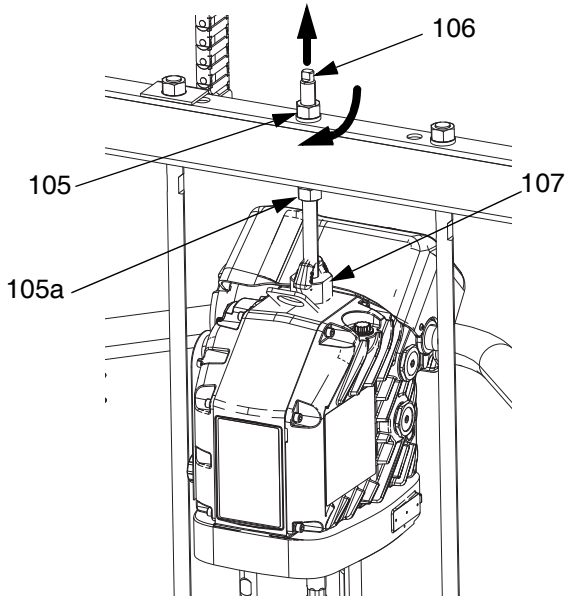

FIG. 43
1. Insert Displacement Pump (AC) on Platen (AD). Follow **Connect Platen** steps on page 48.
3. Connect Driver (AB):
- a. Use wrench on nut (105) on top of Ram bar to lower Driver (AB) onto Displacement Pump (AC). See FIG. 43 on page 49. Thread nut (105) up and tighten it under Ram bar. Tighten nut (105) below the crossbar to 25 ft-lb (34 N•m) maximum.